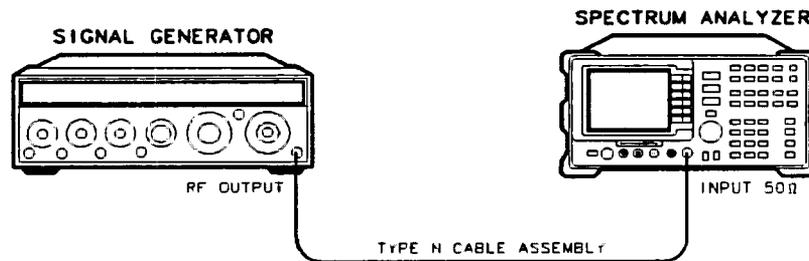

Figure 4-4. System Related Sidebands Test Setup
2. Connect the equipment as shown in Figure 4-4.